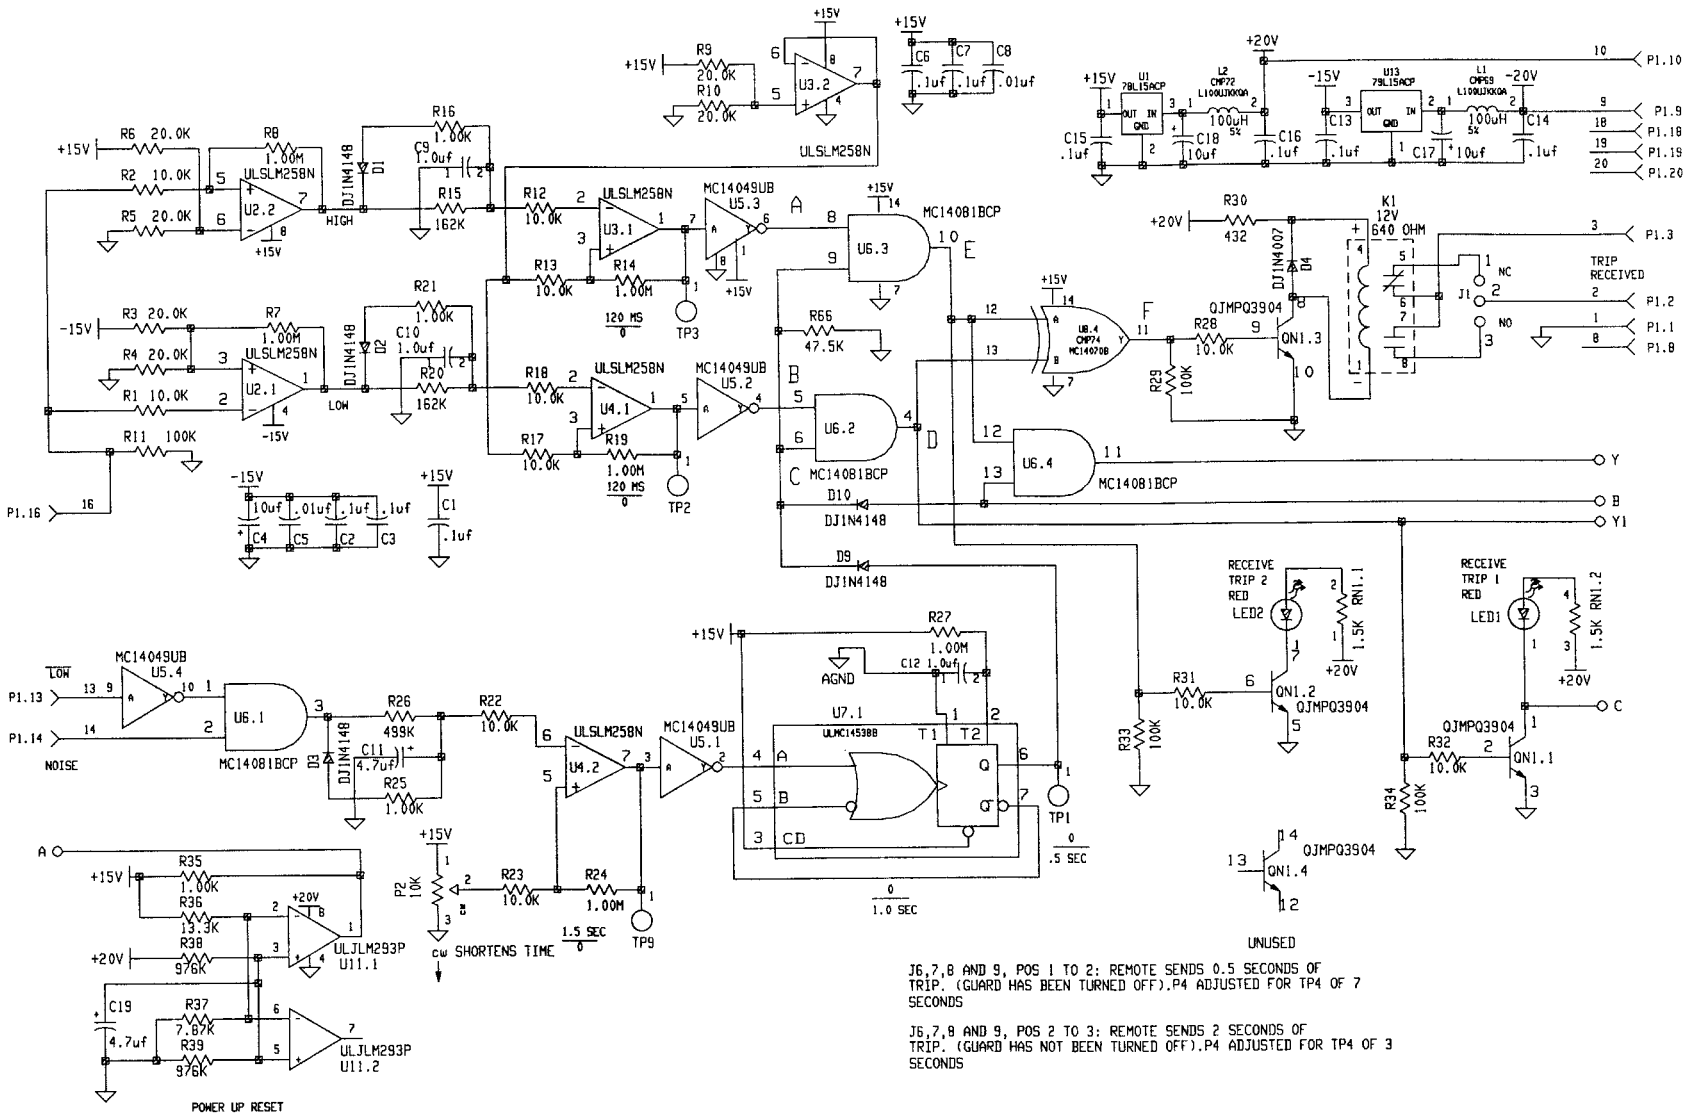
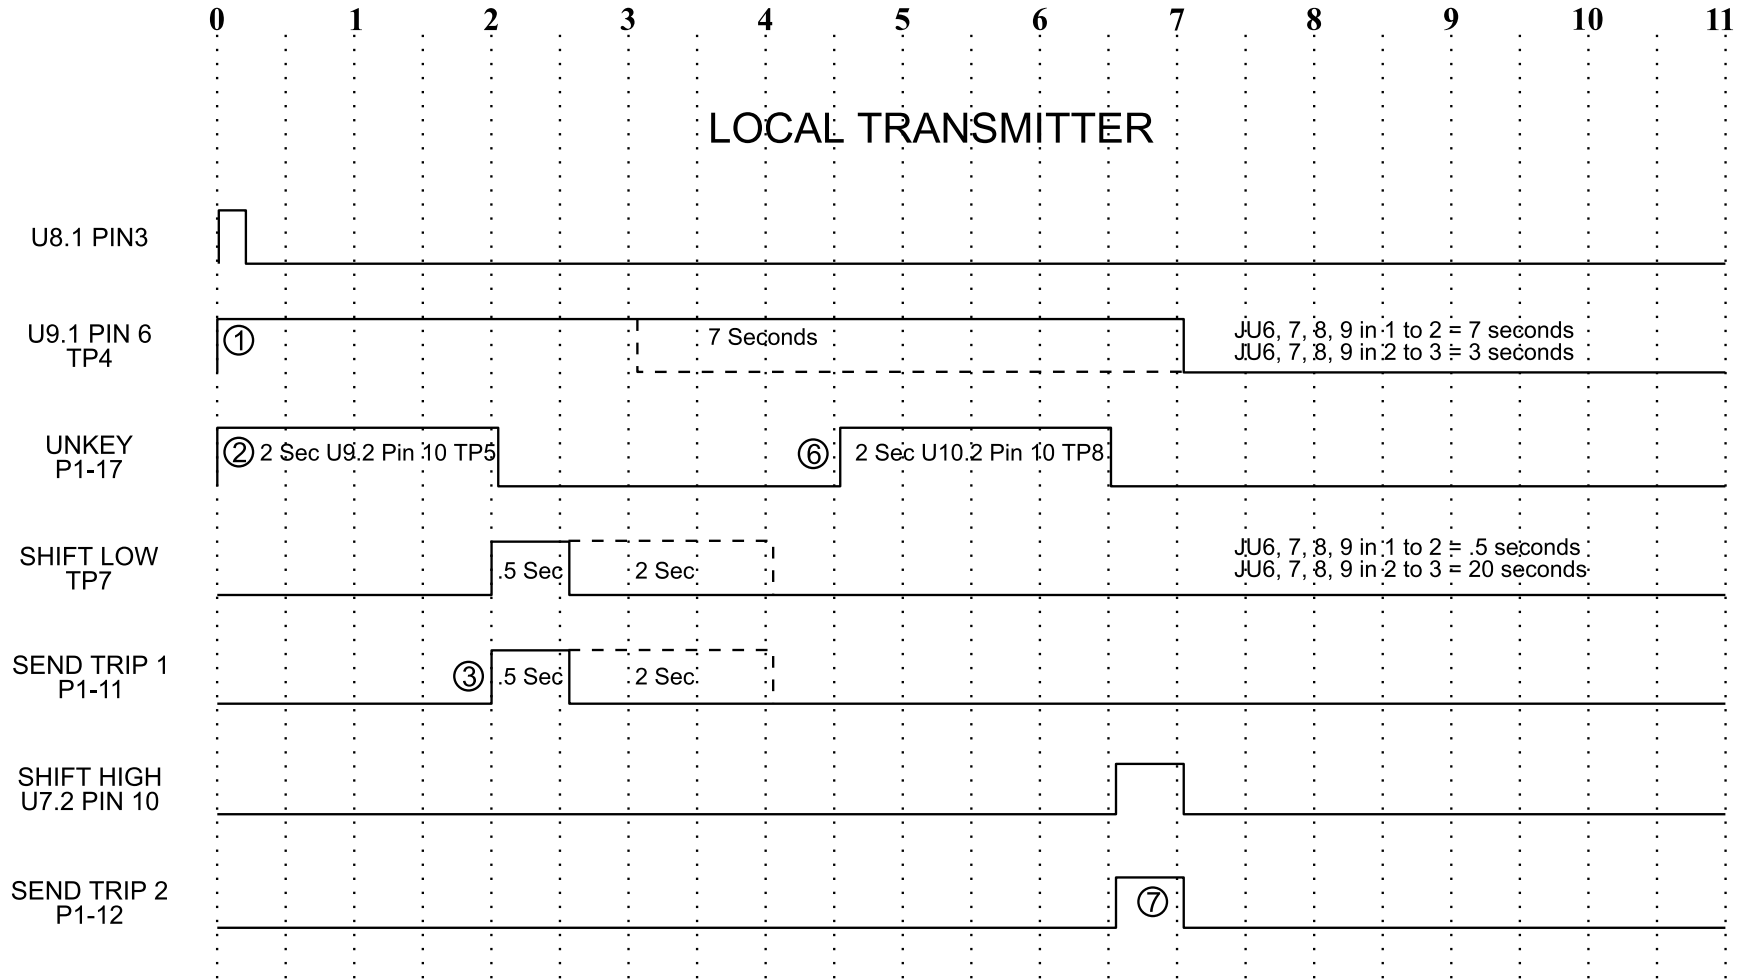

Figure 19-1. Schematic of TTU Daughter Board (1614C25; Sheet 1 of 2).
Figure 19-8. TCF-10B Trip Test Unit Timing Diagram (Sheet 1 of 5).
The optional Trip Test Unit is designed to test two-frequency or three-frequency transfer trip units using the TCF-10B. The schematic diagram of the TTU board (daughter board on the Transmitter Module) is shown in Figure 19-1. This board plugs onto the Transmitter board (see Figure 19-4). The backplane PC board for the TC/TCF-10B has been modified to bring out the extra inputs and outputs needed for the TTU operation. Note, however, that backplanes having a sub lower than five (5) cannot be used with the TTU.
The schematic of the backplane is shown in Figure 7-1. The Timing Diagrams for the TTU are shown in Figure 19-8 through Figure 19-13.
Refer to Figure 19-1 and the Timing Diagrams (Figure 19-8 through Figure 19-13) for the following sequence of events describing a TTU cycle. Both the local substation (LS) and the remote substation (RS) are sending GUARD (HIGH) frequency.
Table 19-1 (in Figure 19-8) Table 19-1a (in Figure 19-8a) list the events that occur at the local substation (LS) and the remote substation (RS). There are nine (9) events for both the LS and the RS. Use Table 19-1 when the TTU jumpers JU6, JU7, JU8, and JU9 are in the 1-2 positions and Table 19-1a when they are in the 2-3 positions.